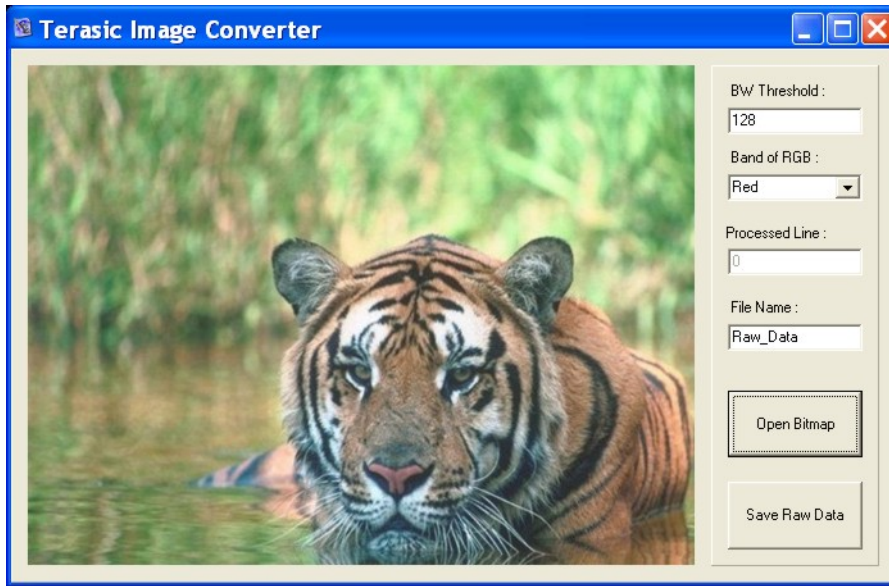

Figure 3.13. The image converter window.
3. Execute *DE2\_control\_panel\ImgConv.exe*, an image conversion tool developed for the DE2 board, to reach the window in Figure 3.13.